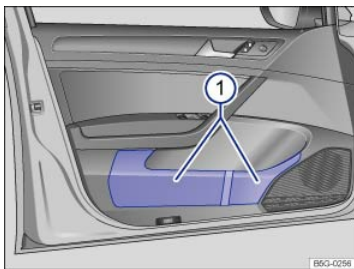

Fig. 117 In the driver door: Storage compartment.
There is a storage compartment in each vehicle door ➔ **Fig. 117①**.